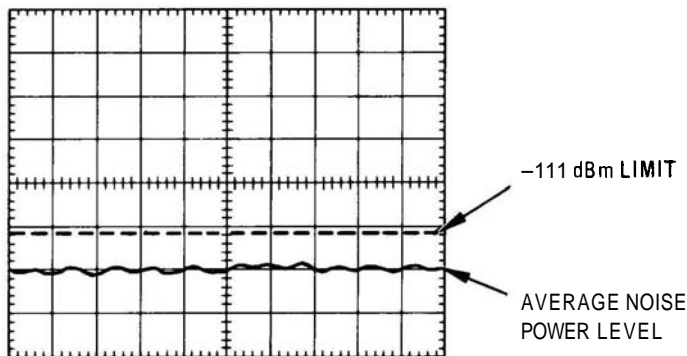

FIGURE 4-13. AVERAGE NOISE LEVEL MEASUREMENT, .01 - 3GHz
5. Measure average noise level displayed on CRT (see Figure 4-13) and record results in Table 4-5.